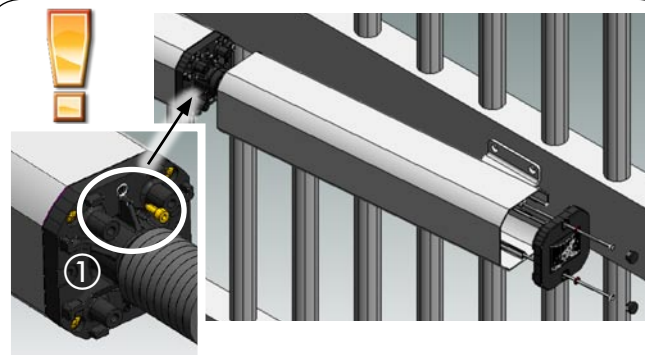

Fig. 16
16. Remove the bleed screw (Fig. 16 ref. ①) paying special attention to leave the sealing O-Ring in its seat
17. Install the metallic protection cover as shown in Fig. 16, insert and tighten both tie-rods